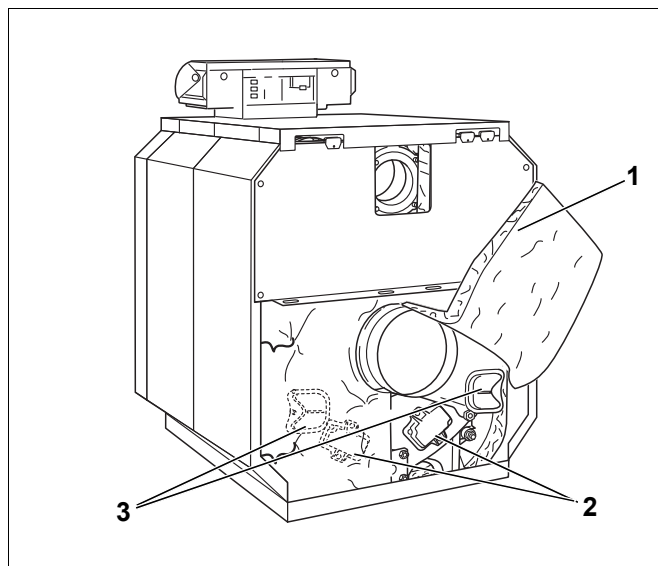

Fig. 75 Remove the clean-out covers
- Slacken the spring hook below the flue outlet, flip the thermal insulation upwards, and hook in using the spring hook (Fig. 75, [1]).
- Remove the clean-out cover on the rear section (Fig. 75, [2]) and on the flue gas collector (Fig. 75, [3]).